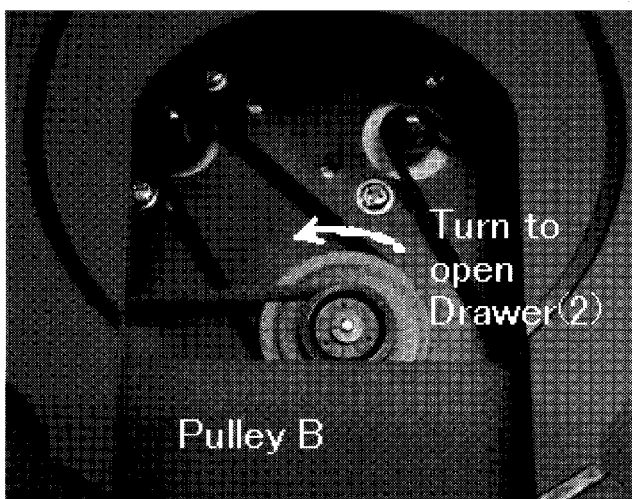
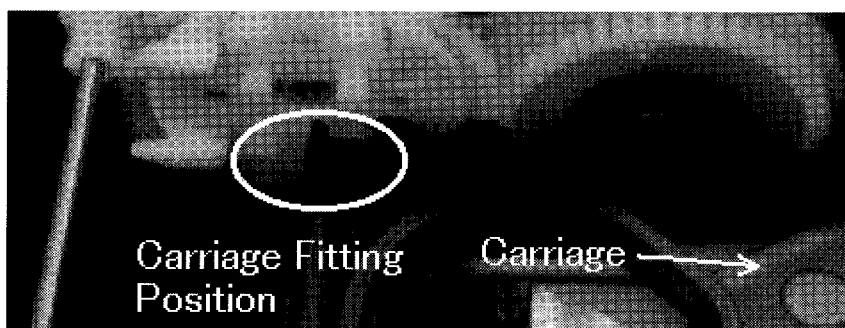
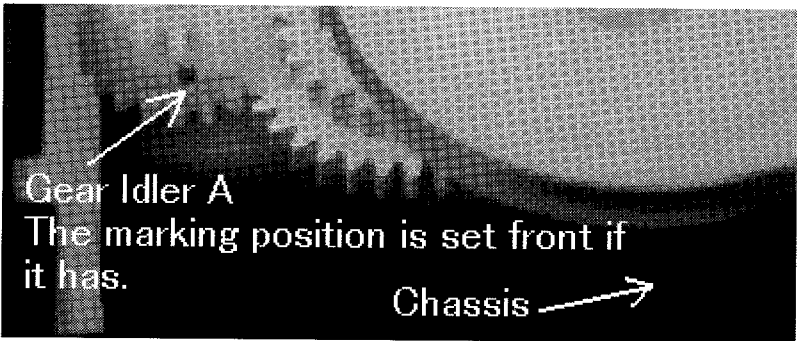
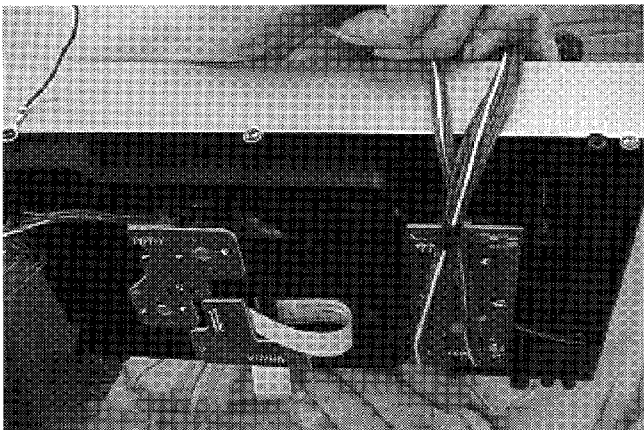

Fig.11
Fig.16
Fig. 18
Fig. 19
- 1) Remove 6 SCREWS(115) from COVER(23).
- 2) Turn PULLEY B(49)anti-clockwise and pull DRAWER(2) block. The DRAWER block is easily pulled out.(See Fig.11)
- 2) Then push in the left side of **CARRIAGE 20** on **STAR GEAR C(20)** and the rail part by warping the **CARRIAGE**. (See Fig. 16.)
- 3) Turn **BEVEL GEAR 4 (8)** clockwise to move **CARRIAGE 20** inside. After it reaches innermost, you cannot turn **BEVEL GEAR**.
- 7) In assembly of the left side of CHASSIS, GEAR IDLER A(39) has a direction. (See Fig.18) Set it as its marking faced to the front. (If it doesn't have any marking, no need to take care of direction.)
- 10) When you assemble DRAWER block with CHASSIS, it is important that linear gears in CHASSIS gang well with GEAR IDLER A(39). While GEAR IDLER A isn't ganged well, turn PULLEY B(49) (Fig. 11) a bit and make them ganged. (Take care not to turn it much. GEAR IDLER A should be in +/- 45 degrees from the center.) (See Fig. 18)
- 11) Push in two hooks at the both sides as they sound click. (You may fix the right side hooks first before you move Drawer block inside in item 9).
- 12) Put COVER(23) and mount six SCREWS(115).
- 13) This is a completed or removed condition. (See Fig. 19.)